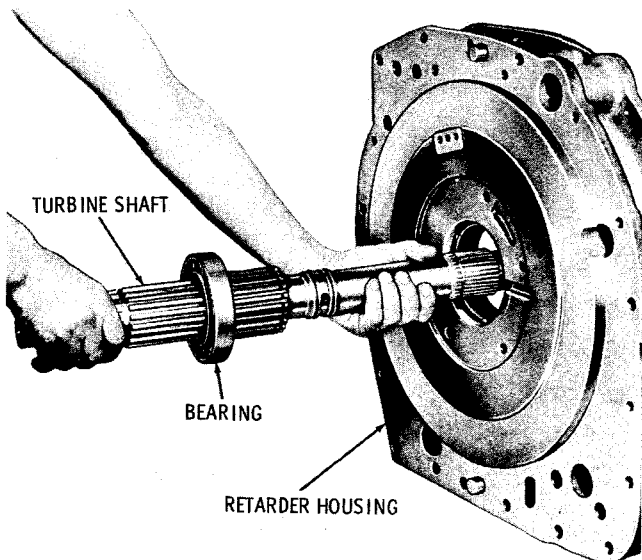

Fig. 5-46. Removing turbine shaft and bearing (CBT, CLBT, VCLBT) S1591
(7) Remove the turbine shaft, with the bearing from the housing (fig. 5-46). Slide the rotor washer off the shaft. Press the bearing toward the rear end of the shaft.